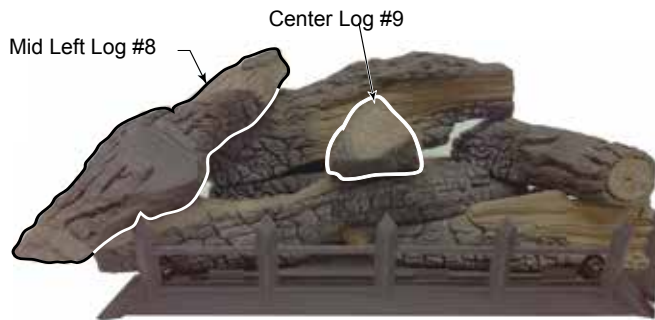

Figure 32
8. Place mid left log (#8) on mid rear log (#7) and front bottom log (#5) by placing notches on bottom of log onto locating blocks on log #7 and log #5. *Figure 32*
9. Place center log (#9) onto front bottom left log (#5) by placing notch on bottom of log #9 onto locating block on log #5. The flat triangle-shaped end of log #9 should be towards front with pointed end of log resting on bottom rear log (#1). *Figure 32*